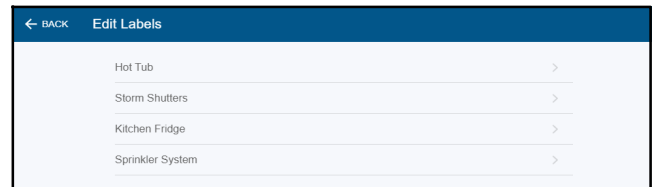

Figure 1-27 Rename Pim Labels
3. OnCue Plus will indicate in a green box at the bottom that the command was sent successfully. See Figure 1-27. Select OK. It will take several seconds for the system to receive confirmation that the command was executed. Once confirmation is received, the status of the output will change.
Use OnCue Plus to change the output label to identify the equipment connected to each output. To change the label, select RENAME PIM LABELS at the bottom of the Loads section. The four outputs that can be reprogrammed and controlled are shown. See Figure 1-27.